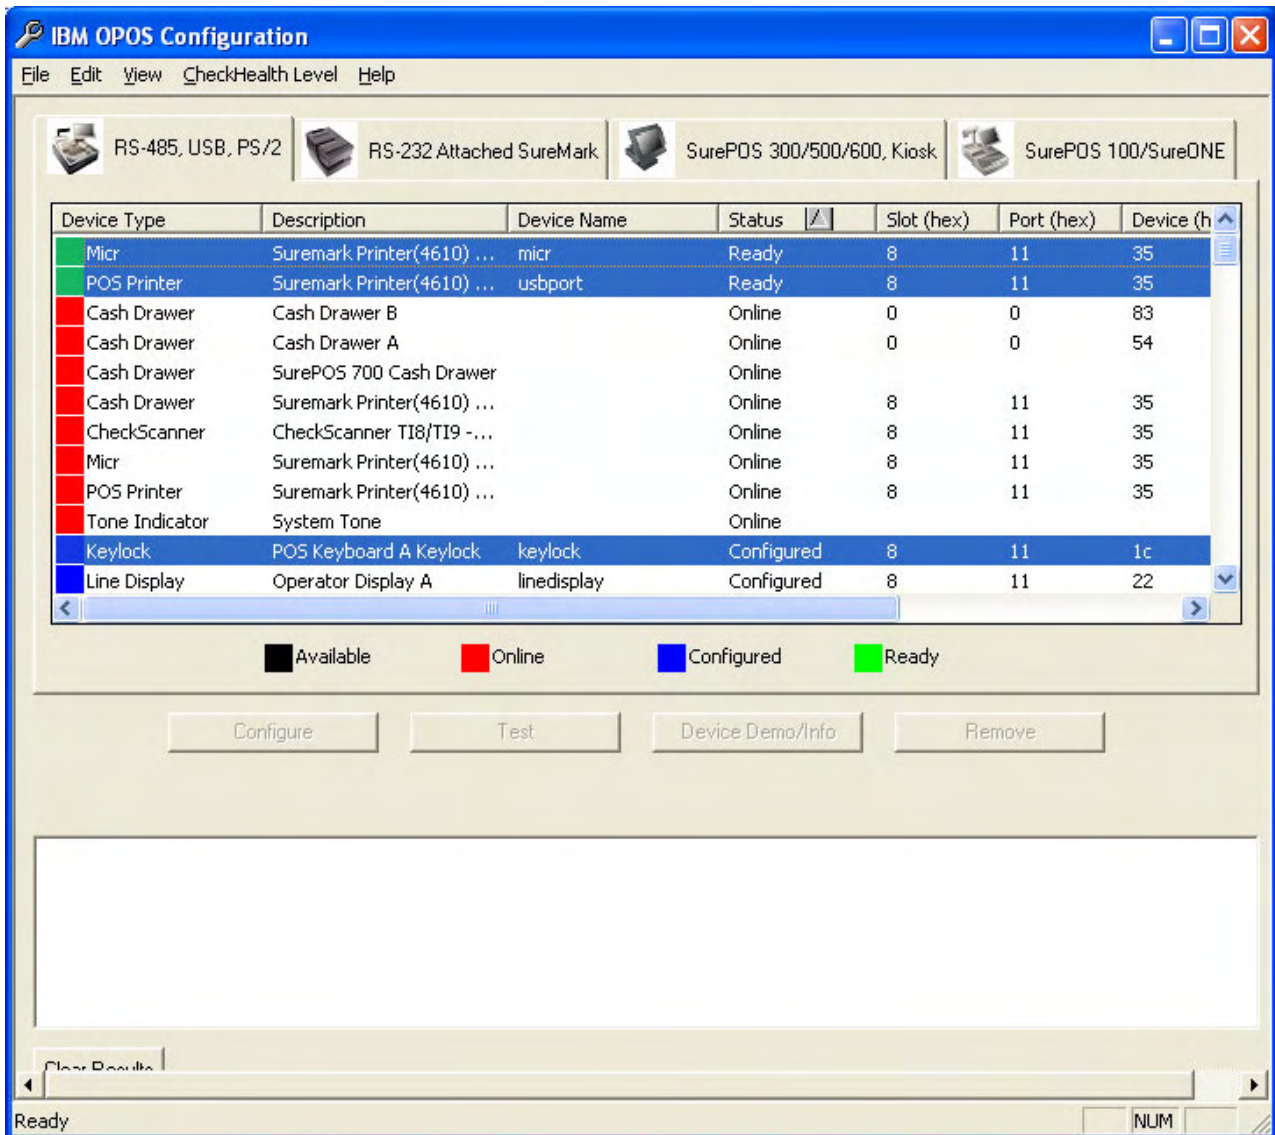

Figure 10. Selecting devices to export
1. Select the devices (on all the tabs) that you want to export. Use the **Shift** and **Ctrl** keys to select more than one. (See Figure 10 on page 24.)